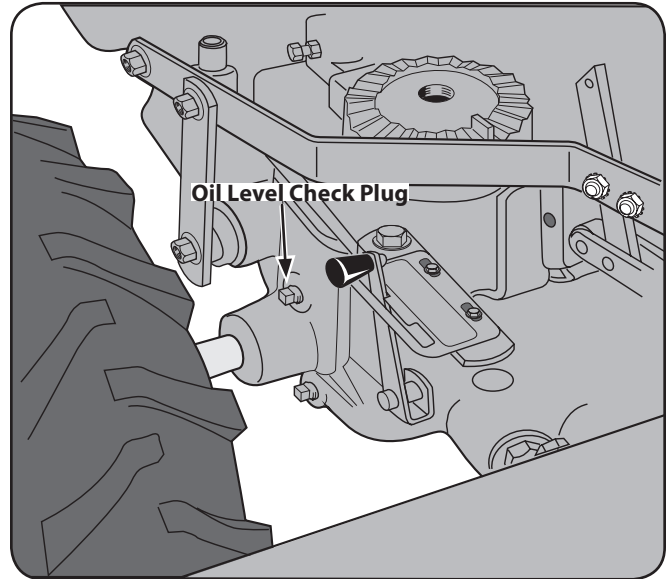

Figure 6-6
4. Use a $\frac{3}{8}$ " wrench to remove the oil level check plug on the left side of the transmission housing. See Figure 6-6.
2. Remove the dipstick from the tine attachment. See Figure 6-6.